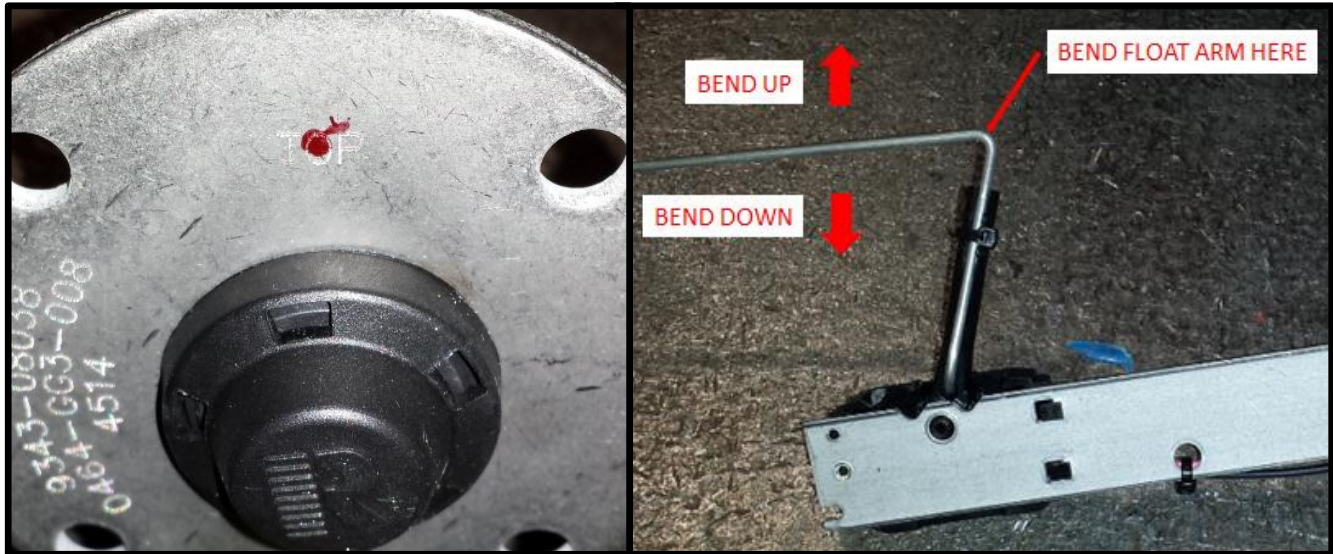

FIG. 3-1
- a. Sender is labeled TOP as would be installed into tank. Refer to FIG. 3-1.